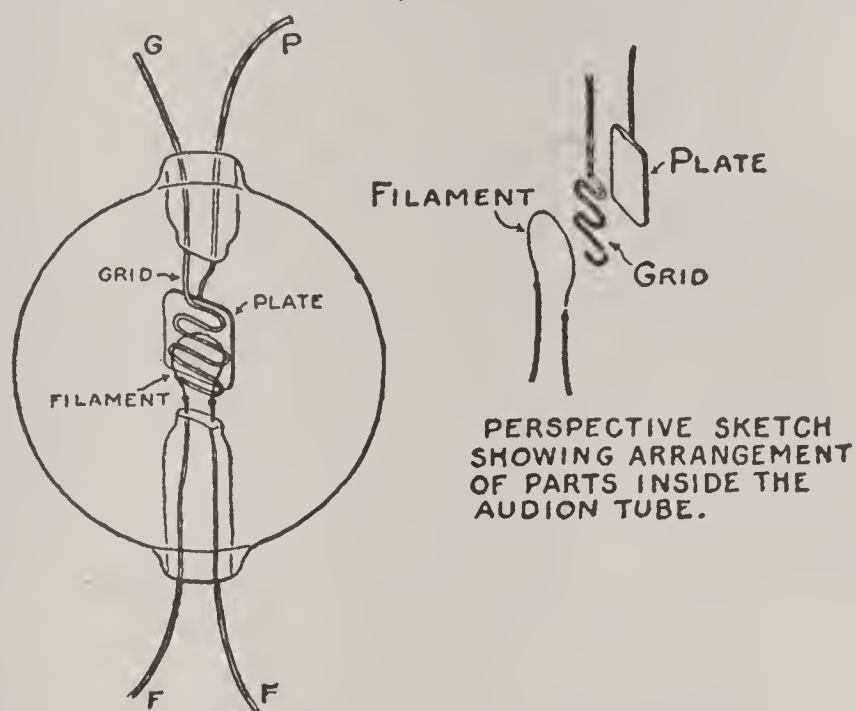

FIG. 218. — Diagram of the Audion.
2. a cold metallic cage or spiral wire called the grid, placed between the filament and plate and apart from both. (Fig. 218.)